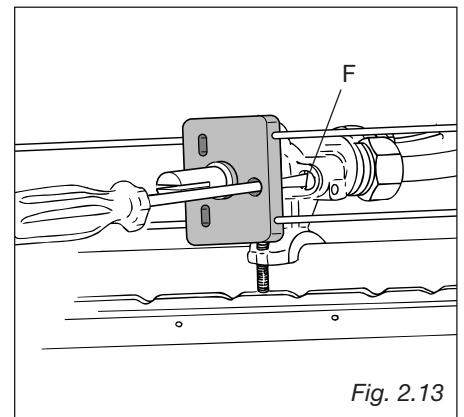

Fig. 2.13
- With a thin screwdriver pass by the hole of microswitch and turn the screw **F** until adjustment is correct (fig. 2.13).